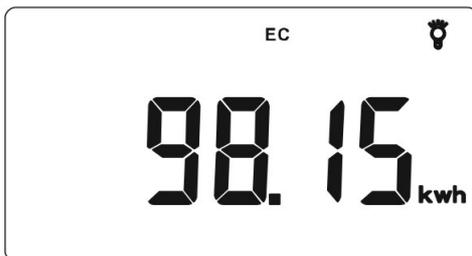
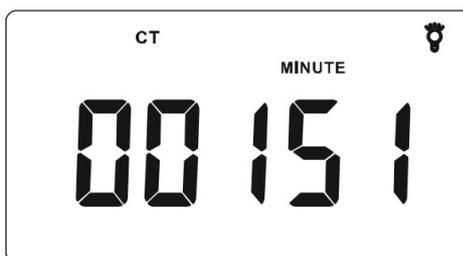

Figure 2
Figure 3
2. Check the current electricity consumption and electricity consumption time Respectively switch to accumulated electric quantity monitoring interface (as shown in **Figure 2**) and accumulated time monitoring interface (as shown in **Figure 3**) by pressing “▲” or “▼”, and the measuring display ranges shall be 0.00-99,999KWh and 0-99,999 minutes respectively. The measured electricity value and electricity consumption time will be automatically stored, and the accumulated measured values will not be lost even under long time outage. * Accumulated electric quantity and accumulated time clearance: respectively switch the instrument to accumulated electric quantity and accumulated time interface. Press the “SET” for 2s, the accumulated electric quantity and accumulated time will flicker; press “OK” to reset.